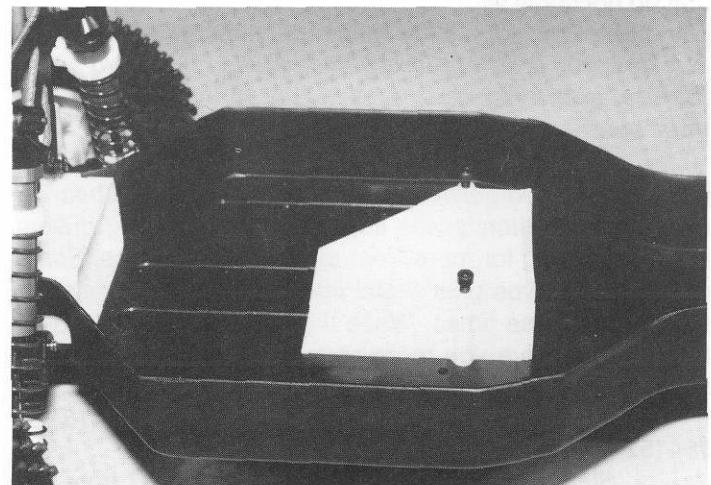
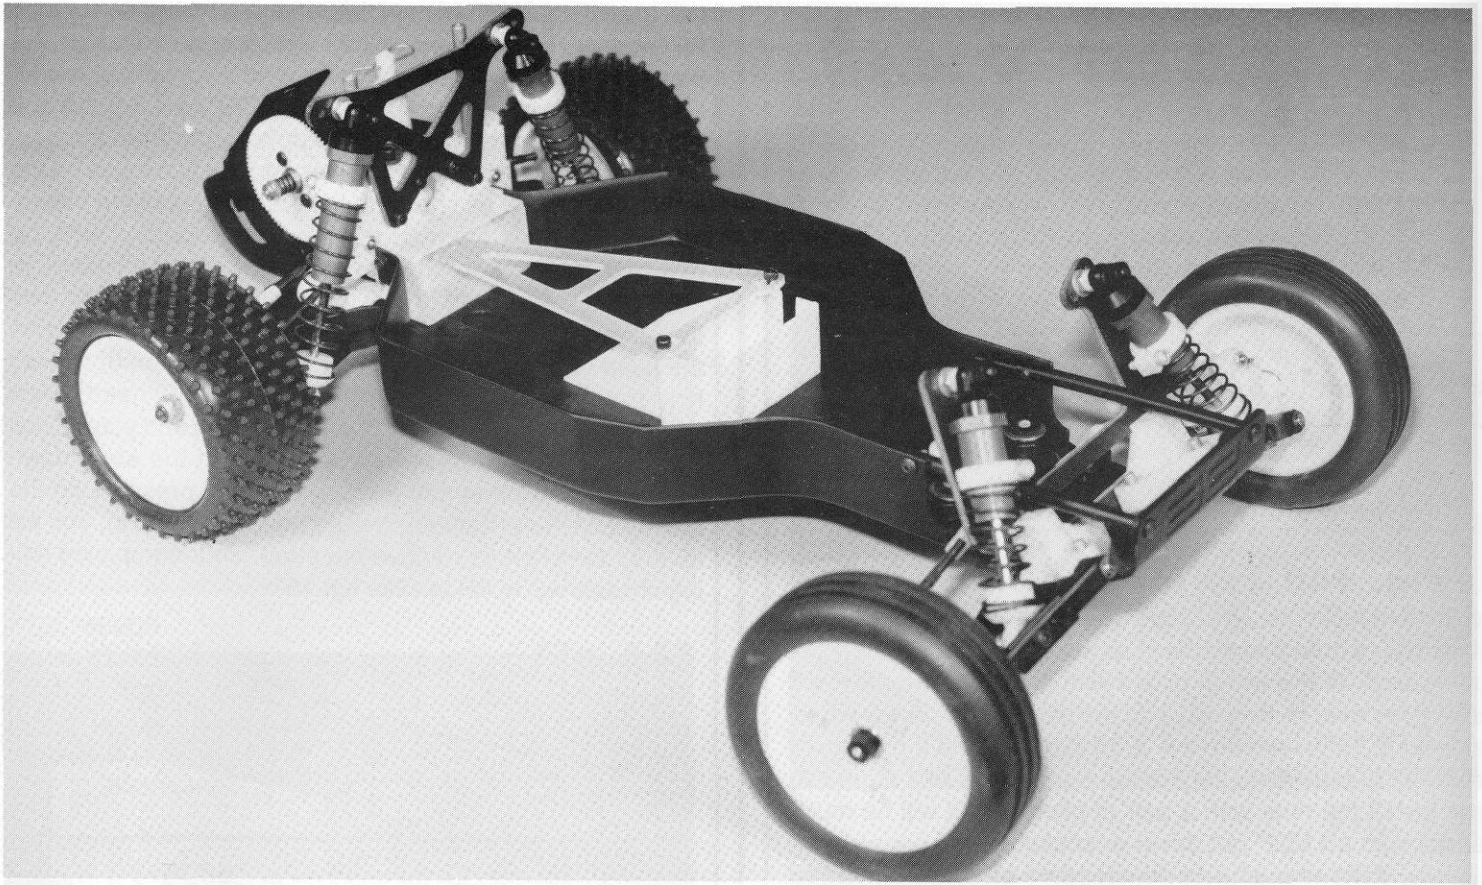

Fig. 150
Fig. 151
□ **Figs. 149, 150 & 151** In bag #6-7 you will find the #6334 nylon battery cup and two #6922 4-40 x 1/2" FHSScrews. Use the two #6922 FHSScrews to fasten the battery cup to the chassis as in fig. 150.
Now get the two #6924 4-40 x 3/8" SHCScrews and the #6339 fiberglass battery hold-down strap from the bag. Thread the two #6924 SHCScrews into the two holes on top of the battery cup as shown in fig. 150. To install the battery strap (after you have installed the battery pack), slide the rear end of the strap into the battery slot in the rear bulkhead. On the opposite end of the strap, place one side over the screw of the battery cup. Slide the strap to the side so the head of the screw is over the smaller section of the key hole slot. While holding this end tight, you will need to flex the other side of the battery cup until the second screw lines up with its hole in the battery strap. Push the strap down over the screw head and then release the pressure on the battery cup. Your batteries would now be locked in; you just reverse the steps to remove the strap. Your completed rolling chassis will now look like fig. 151.